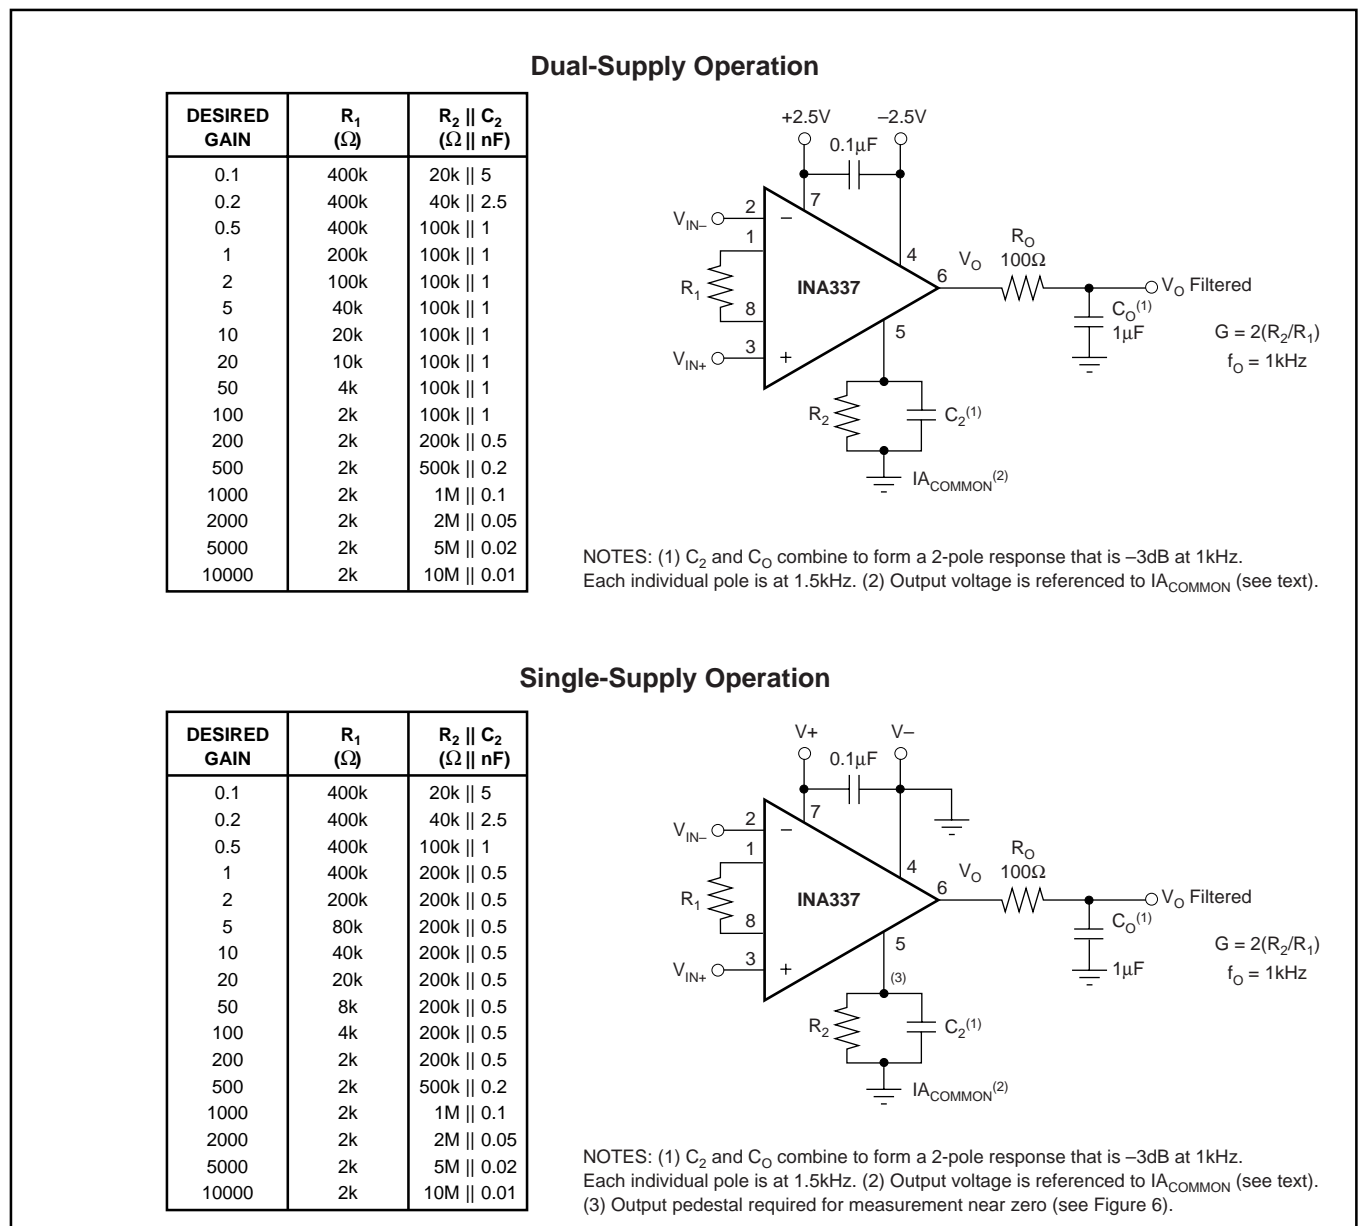

FIGURE 1. Basic Connections. NOTE: Connections for INA338 differ—see Pin Configuration for detail.
NOTES: (1) 1000-hour life test at  $150^{\circ}C$  demonstrated randomly distributed variation in the range of measurement limits—approximately  $10\mu V$ . (2) See Applications Information section, Figures 1 and 2. (3) Does not include error and TCR of external gain-setting resistors. (4) Dynamic response is limited by filtering. Higher bandwidths can be achieved by adjusting the filter. (5) See Typical Characteristics, "Input Offset Voltage vs Warm-Up Time".
Figure 1 shows the basic connections required for operation of the INA337. A 0.1µF capacitor, placed close to and across the power-supply pins is strongly recommended for highest accuracy. ROCO is an output filter that minimizes auto-correction circuitry noise. This output filter may also serve as an anti-aliasing filter ahead of an Analog-to-Digital (A/D) converter. It is also optional based on desired precision.
Resistor values for commonly used gains are shown in Figure 1. Gain-set resistor values for best performance are different for +5V single-supply and for ±2.5V dual-supply operation. Optimum value for R1 can be calculated by:
Circuit layout and supply bypassing can affect performance. Minimize the stray capacitance on pins 1 and 8. Use recommended supply bypassing, including a capacitor directly from pin 7 to pin 4 ( $V_+$  to  $V_-$ ), even with dual (split) power supplies (see Figure 1).